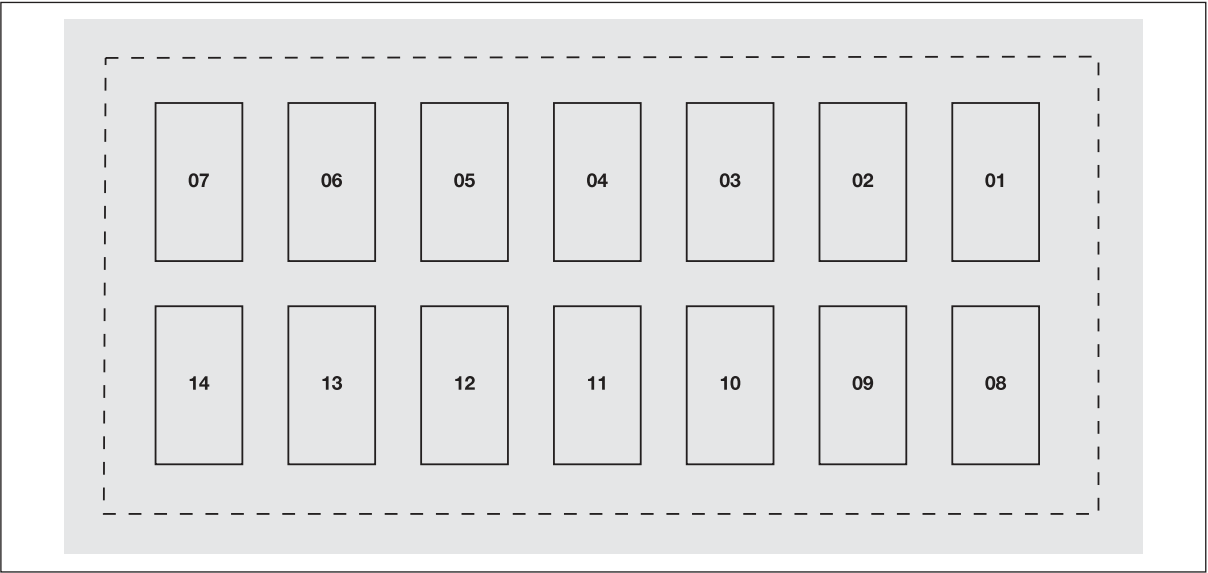

fig. 157
Dashboard fuse box fig. 157
**FUSE SUMMARY TABLE****Dashboard fuse box fig. 157**